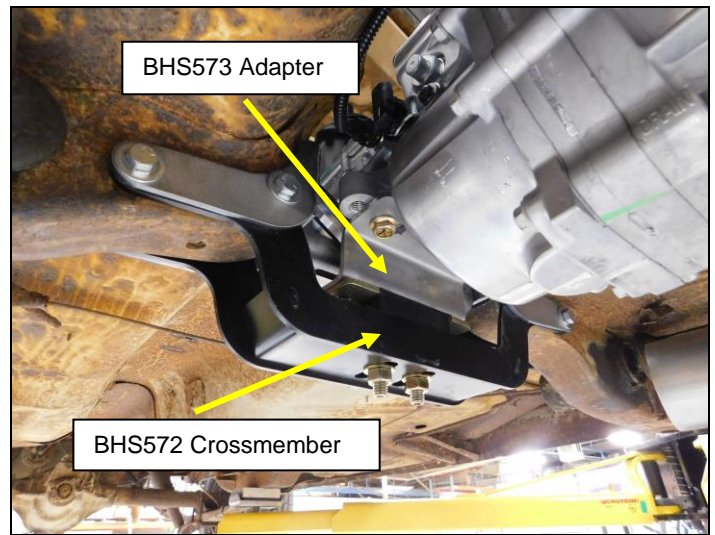

Figure 6
7. Install the BH573 transmission adapter plate on to the transmission using the (supplied with the adapter plate) M10 x 25mm bolts (**Figure 6**).
8. Loosely install the **71223029HKR** transmission mount on to the adapter plate using the 7/16-14 bolts and nuts provided with that kit. These will be tightened after the **BHS572** crossmember is installed (**Figure 6**).
9. Raise the **BHS572** crossmember into position **inside** the BHS588 support. Install the 3/8 x 4" bolts and flat washer through both the **BHS572** and **BHS588**, install the lock nuts, and tighten (**Figure 6**).